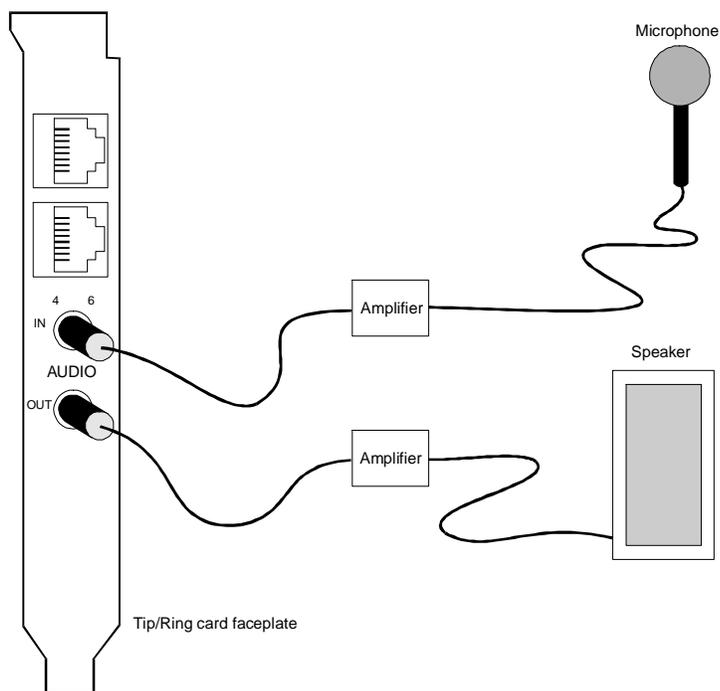

Figure 10-13. Connecting the T/R Circuit Card and Graphical Speech Editor
2. Plug the microphone cable into the AUDIO IN jack on the faceplate of the T/R circuit card (Figure 10-13). This connection dedicates line 0 of the T/R circuit card.